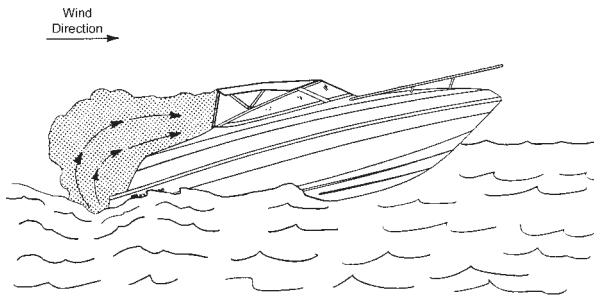

Figure B13: Operating at Slow Speed with Following Wind
5. Operating a boat at slow speeds with a following wind should be avoided. Consider changing direction, adjusting speed, or both. See Figures B13.